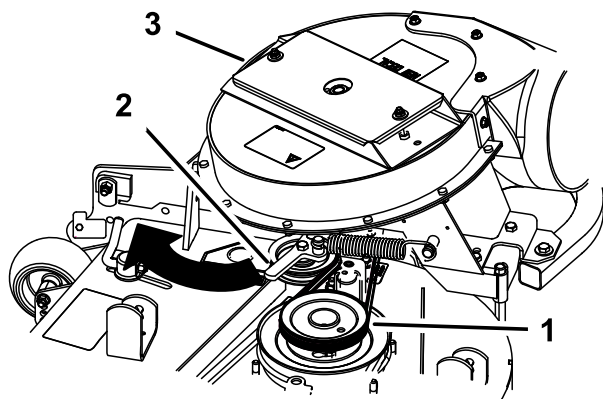

Figure 19
5. Pull the spring-loaded idler pulley back and route the belt around the mower-deck pulley (Figure 19).